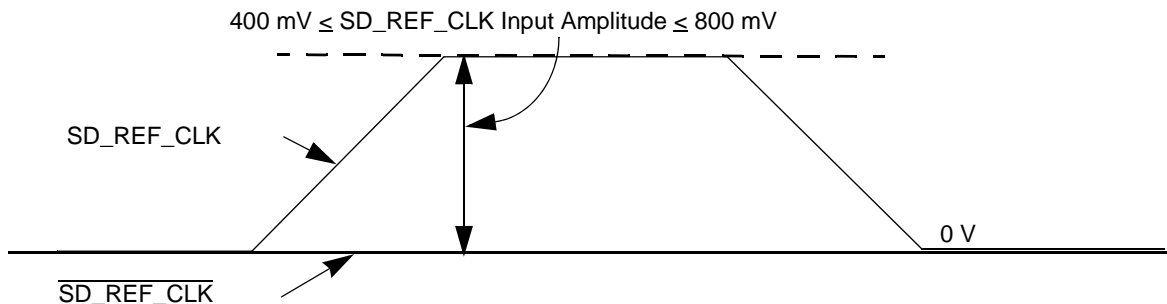

Figure 19. Single-Ended Reference Clock Input DC Requirements
- The SD\_REF\_CLK input average voltage must be between 200 and 400 mV. Figure 19 shows the SerDes reference clock input requirement for single-ended signaling mode.